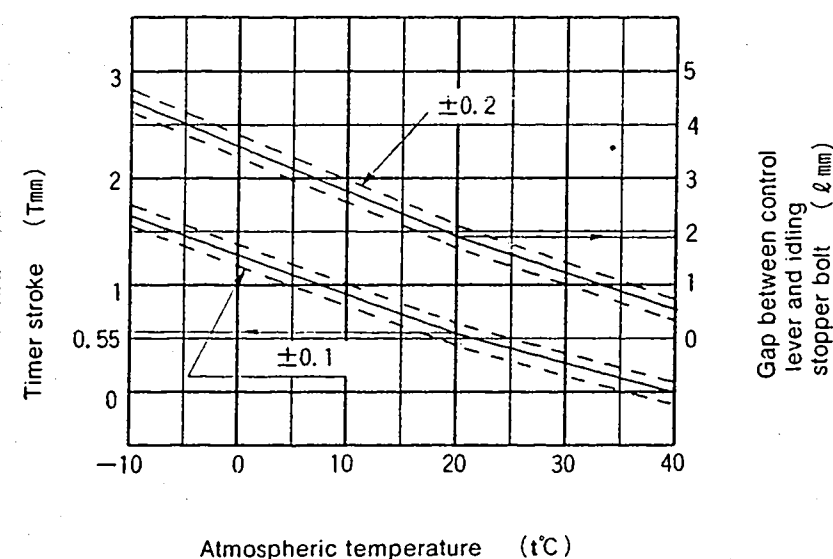

Fig. 2
1. Calculate the timer stroke from Fig. 2 according to the atmospheric temperature at the time of adjustment.
1. Calculate the block gauge dimension  $\ell \pm 0.05$  mm from Fig. 2 according to the atmospheric temperature at the time of adjustment.
#### Formula for calculating Fig. 2